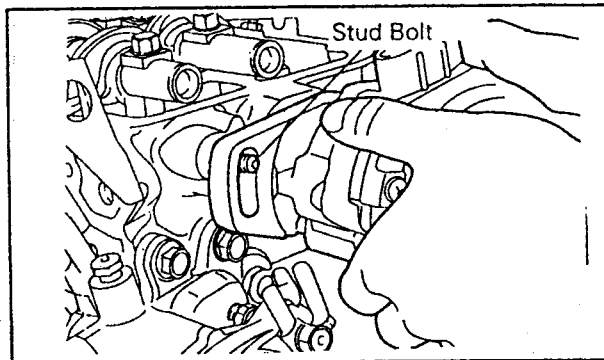

Fig. 5.1. — The distributor is secured with nuts to stud bolts screwed into the end of the cylinder head.
- Unscrew the distributor securing nuts and withdraw the distributor as shown in Fig. 5.1, until it is free to be removed.
- Insert the distributor in this position over the two studs shown in Fig. 5.1 and check that the mark made in the flange and cylinder head are in alignment. Tighten the nuts without moving the distributor.